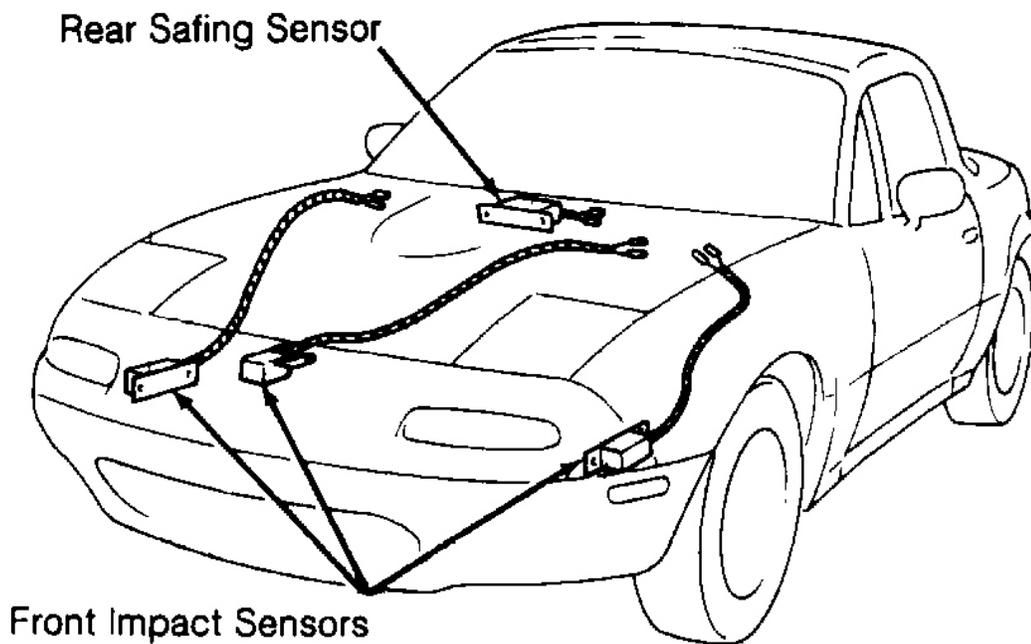
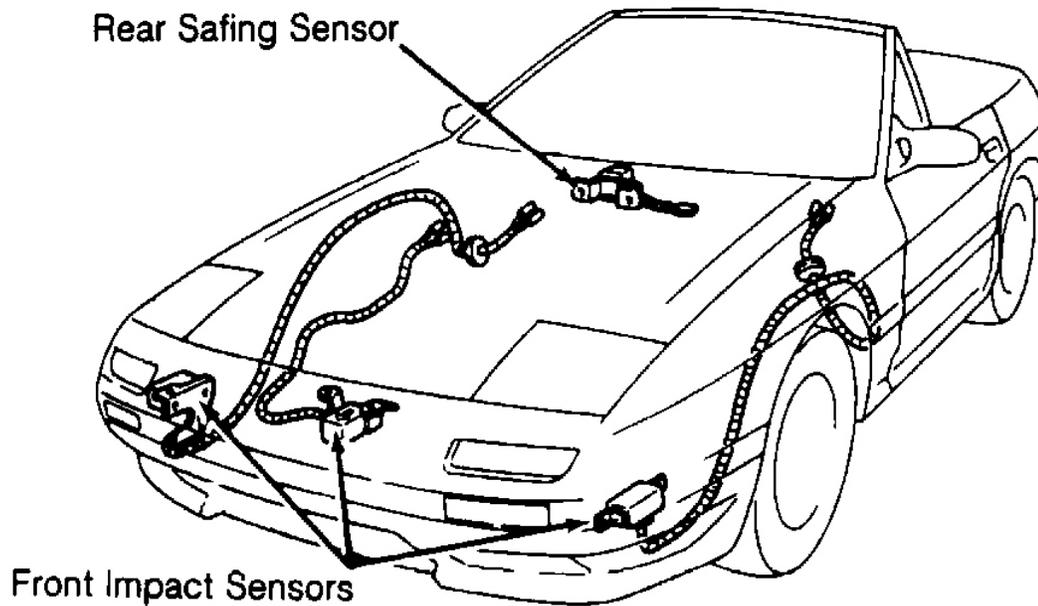

Fig. 2: Locating Crash Sensors (Miata)
Fig. 3: Locating Crash Sensors (RX7 Convertible)
2. Front impact sensors are located in left front and right front of vehicle. See **Fig. 2** or **Fig. 3** . To remove left or right sensor, remove wheelwell undercover, and disconnect connector(s). Remove retaining clips and bolts. Remove sensor(s).
Before proceeding, follow air bag service precautions. See SERVICE PRECAUTIONS. Disable air bag system. See DISABLING & ACTIVATING AIR BAG SYSTEM. Rear safing sensor is located under center of instrument panel. Remove instrument panel. Locate and disconnect safing sensor connectors. See **Fig. 2** or **Fig. 3**. Remove sensor and cover.